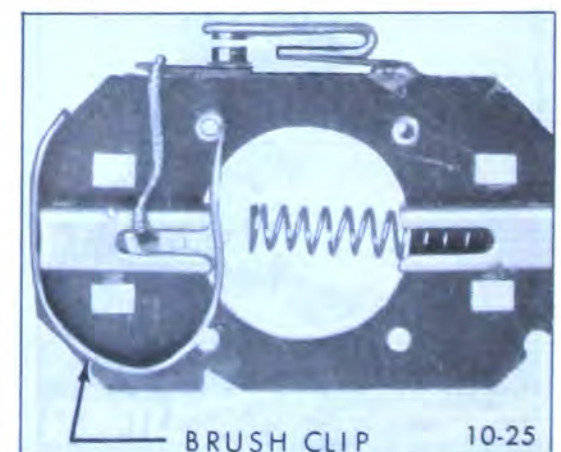

Figure 10-44 Partially Assembled Brush Plate
5. Position the partially assembled brush plate, Figure 10-44, over the armature shaft far enough to allow re-assembly of the remaining brush in its brush holder;